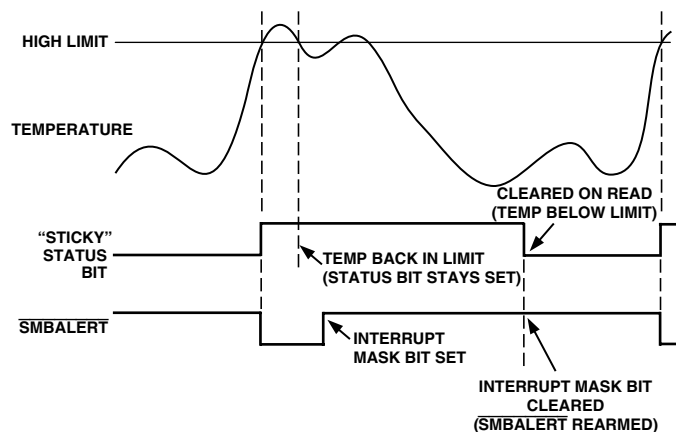

Figure 24. How Masking the Interrupt Source Affects SMBALERT Output
7. Periodically poll the status registers. If the interrupt status bit has cleared, reset the corresponding interrupt mask bit to 0. This causes the SMBALERT output and status bits to behave as shown in Figure 24.